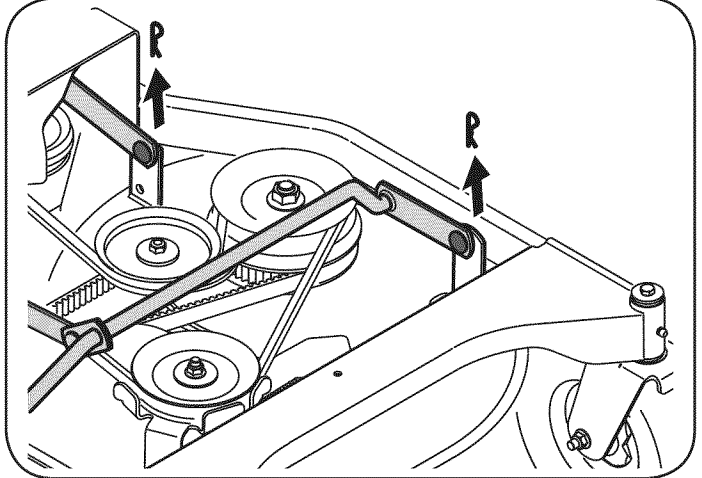

Figure 15
7. Looking at the cutting deck from the left side of the mower, locate the hairpin clip that secures the deck support rod on the rear left side of the deck, Figure 15.
8. Remove the hairpin clip that secures the support rod, and carefully remove the deck support from the deck lift arm, Figure 15.